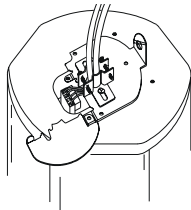

Figure 6
a) **Tightening onto plenum cable or bare wire.** Slide the wiring through the strain relief fitting on the terminal cover plate. In the case of bare wire and plenum cable, it is often possible to provide acceptable strain relief force by simply tightening the screws holding the sliding strain relief onto the terminal cover plate. To achieve a tight fit, use a clamping mechanism (such as slip-joint pliers) to hold the strain relief pieces together while tightening the hold-down screws. (Figure 6)